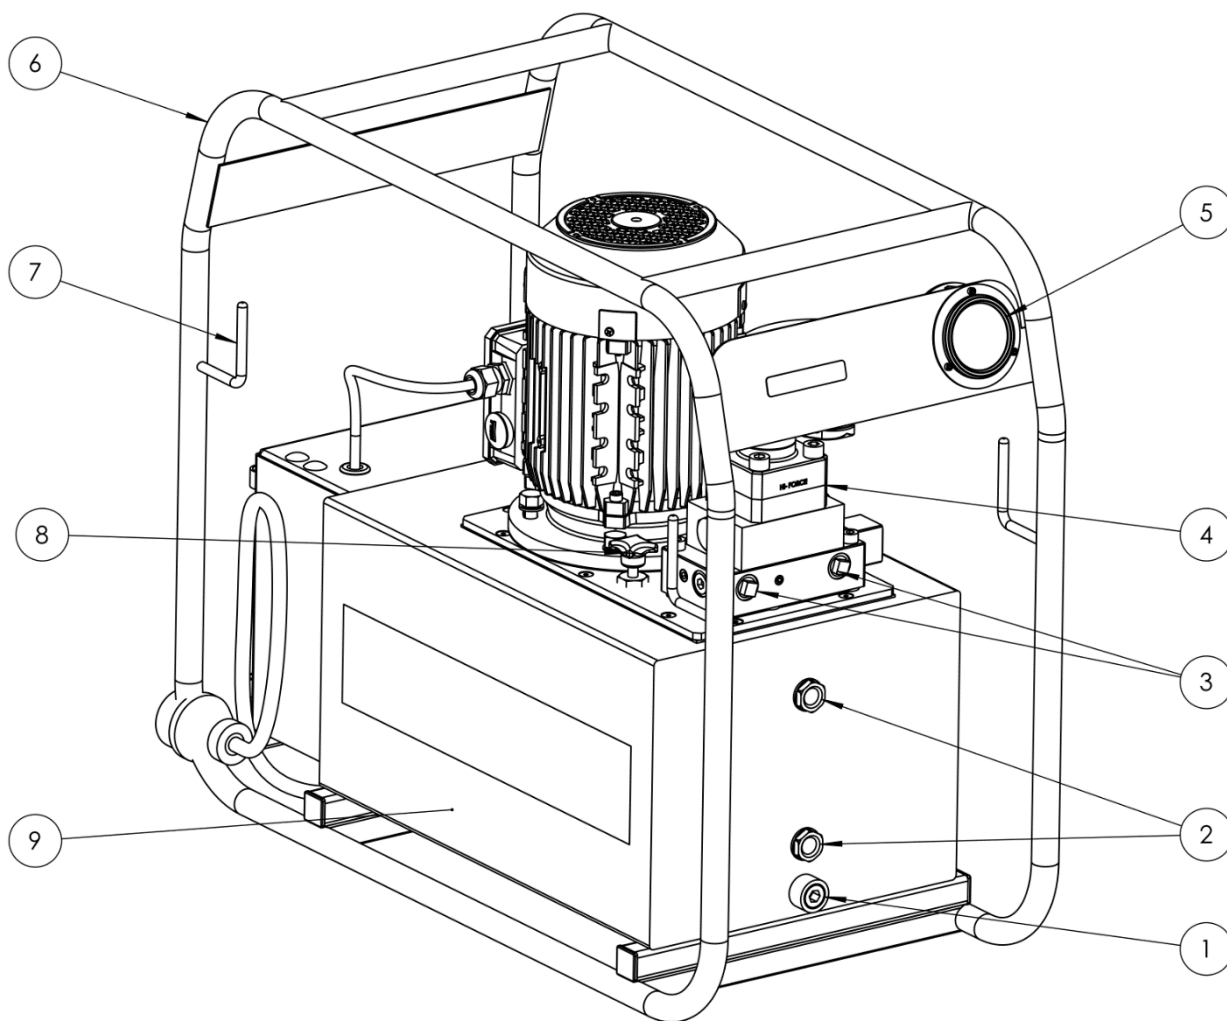

Figure 4.1: Component Identification
2. Remove the temporary transit fitting / plate which is fitted in the position of the oil filler breather cap (11) and fit the oil filler breather cap which is packed separately.
3. Establish the oil level in the oil reservoir using the level gauges (2). Depending on the shipping method used, the reservoir may either be supplied full or empty. If the reservoir is empty it must be correctly filled before use (See section 5.2). If the pump was supplied full of oil, no further action is required.
**CAUTION:** Ensure the oil level does not fall below the minimum level as shown by the lower indicator (2).
4. Remove the steel or plastic hexagon headed plugs and make hydraulic connections to the service ports (3). These ports have a 3/8" NPT female thread and the corresponding male connections should be wrapped with PTFE tape or other suitable sealant.
**NOTE:** On a pump equipped with a 3-way valve the service port is the one on the right-hand side, when viewed from the front. (See figure 4.1).
5. Ensure the lever of the hydraulic directional control valve (4) is set to the neutral position: This is fully anti-clockwise for models with a 2-way valve, or the central position for models with a 3-way or 4-way valve.
8. Check the direction of rotation of the motor by pressing the green 'ON' button (13), then immediately pressing the red 'OFF' button. While doing this observe the motor fan. The motor should run in a clockwise direction when viewed from above. If the motor turns anti-clockwise, check the wiring of the electrical connector.
9. The pump is fitted with an adjustable pressure relief valve (8) to restrict the output pressure to any desired value, up to the maximum working pressure of the pump.
- Press the green 'ON' button (13) and turn the directional control valve to the advance position (for 2 way valves turn the lever fully clockwise, for the 3 and 4-way valves turn the lever fully anti-clockwise and for the solenoid valves press and hold the 'advance' button on the pendant).